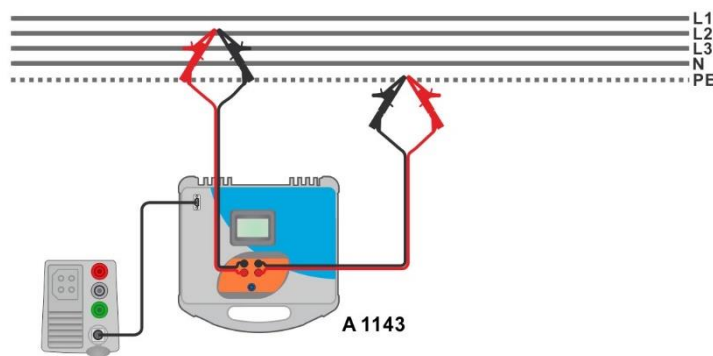
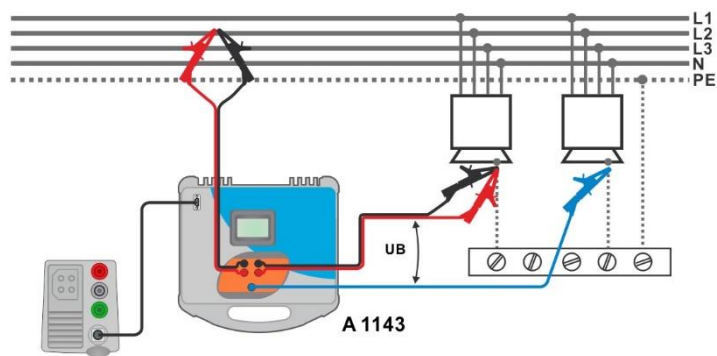

Figure 7.51: High precision loop impedance measurement – Connection of A 1143
Figure 7.52: Contact voltage measurement – Connection of A 1143
- ▶ Connect test leads to the object under test, see **Figure 7.51** and **Figure 7.52**.